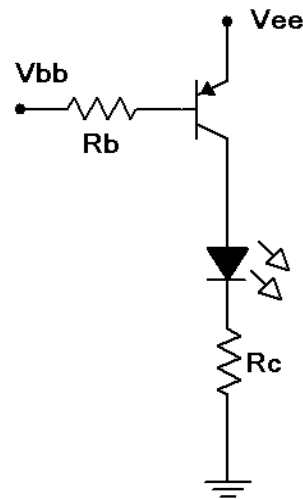

Figure 2
6. Consider the PNP saturating switch of Figure 2 using $V_{ee} = V_{bb} = 5$ volts, $R_b = 4.7 \text{ k}\Omega$ and $R_c = 220 \text{ }\Omega$. Without a base-emitter differential, the circuit will be in cutoff. Calculate the base and collector currents along with the collector-emitter voltage and record them in the first row of Table 3 (Theory).
7. Build the saturating switch of Figure 2 using $V_{ee} = V_{bb} = 5$ volts, $R_b = 4.7 \text{ k}\Omega$ and $R_c = 220 \text{ }\Omega$. Measure and record the base and collector currents along with the collector-emitter voltage, and record them in the first row of Table 3 (Experimental). Also compute and record the deviations between theory and experimental results.